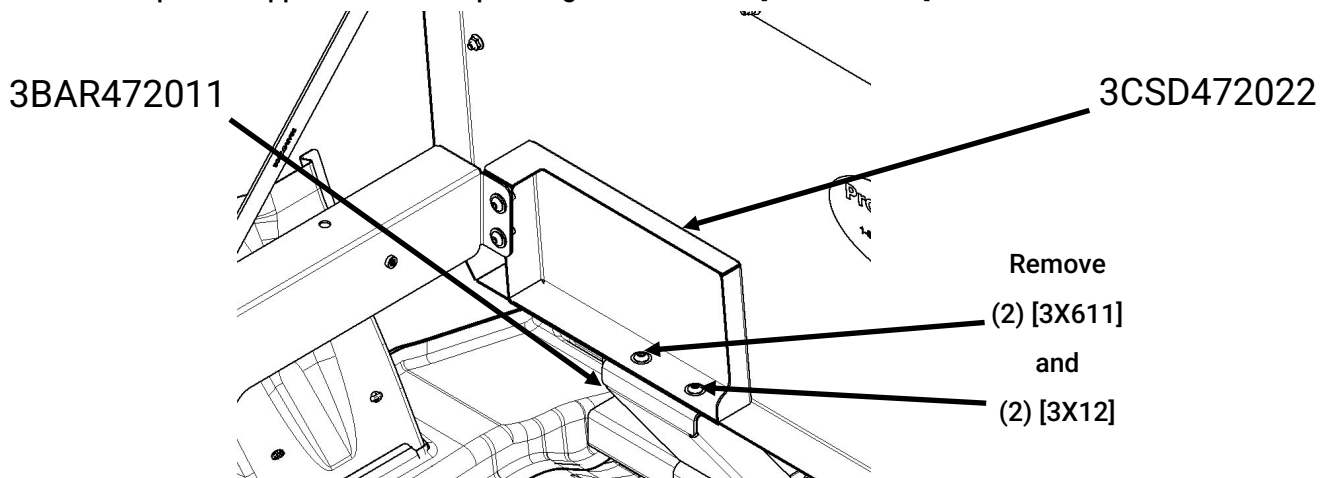

Figure 6
- A. If installing with existing Barrier, remove (2) [3X611] 5/16-18 x 7/8" screws and (2) washers (3X12) securing Barrier to Barrier Support Bracket (See Figure 6).
- C. Insert (2) [3X611] screws and washers. Tighten.